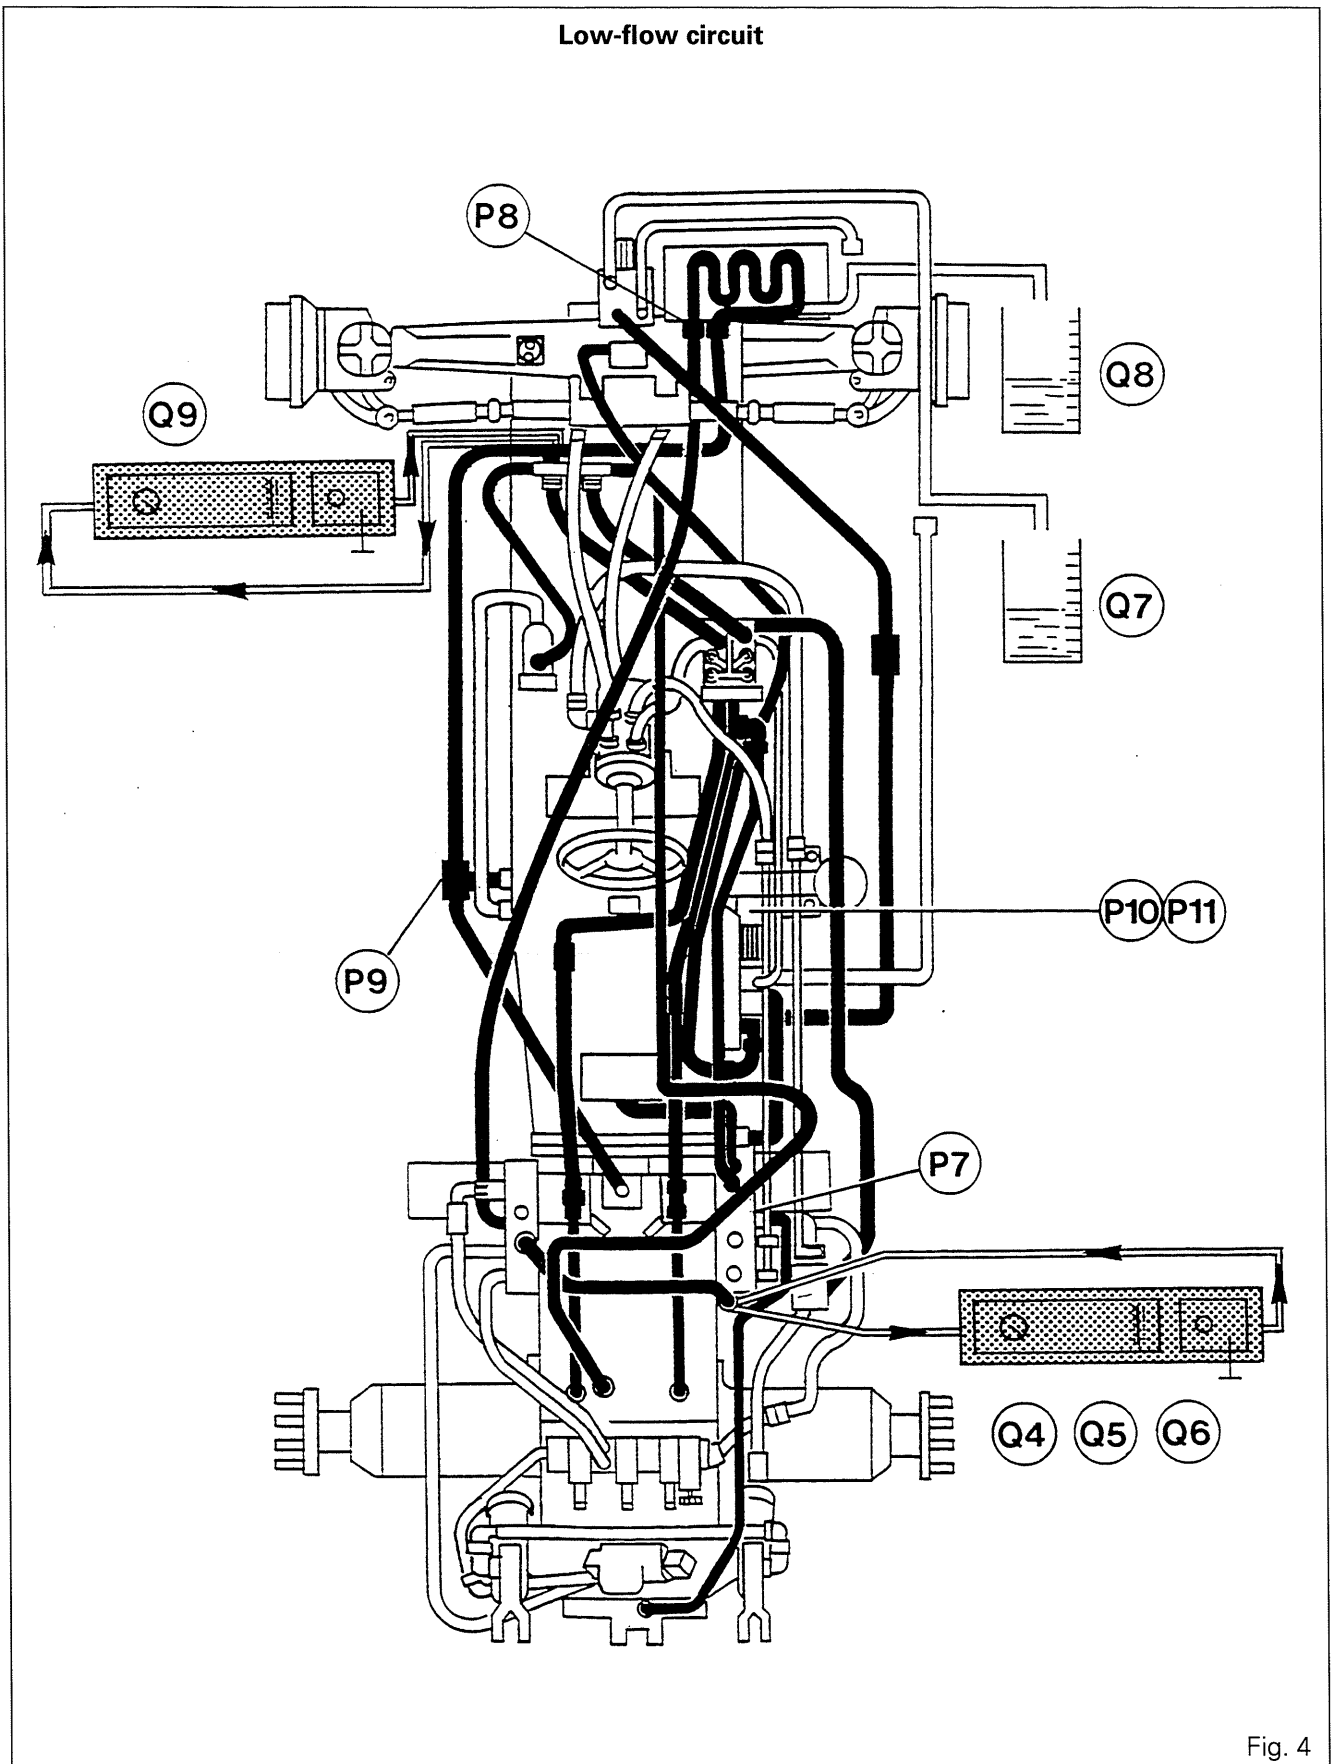

Fig. 4
- Connect up a turbine type flowmeter between the manifold and the lubricating hose (Fig. 4).